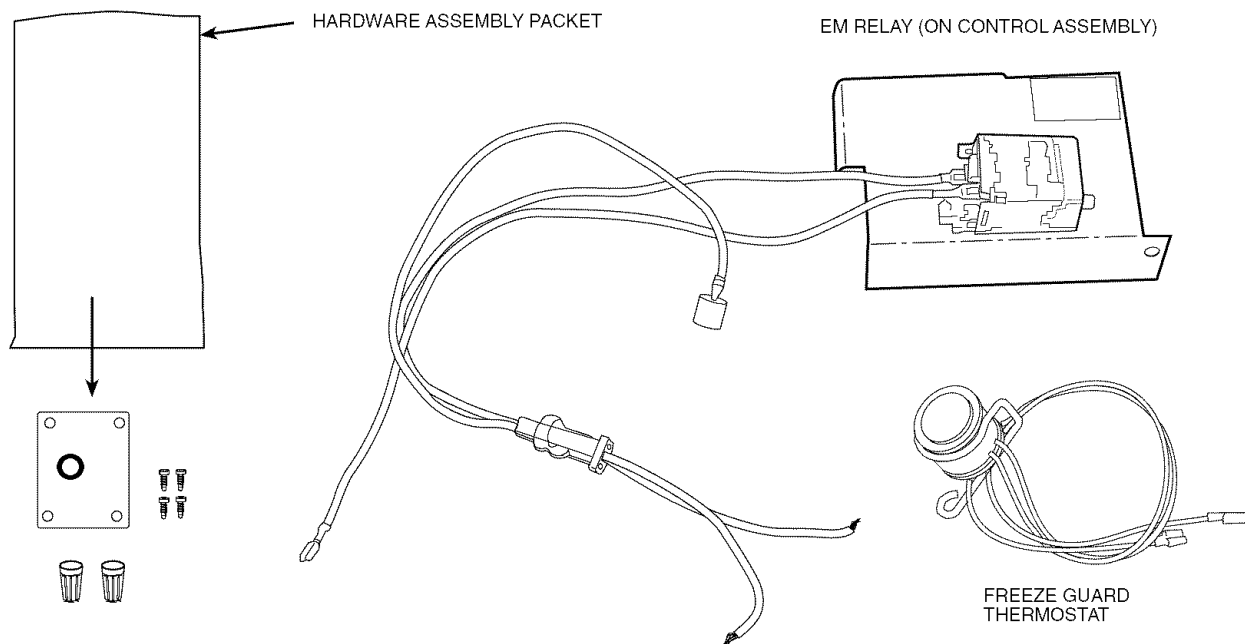

Fig. 1 — Energy Management (EM) Accessory Kit
These instructions cover the installation of the Energy Management (EM) accessory kit with Freeze Guard Thermostat for packaged terminal air conditioner (PTAC) units. See Fig. 1.